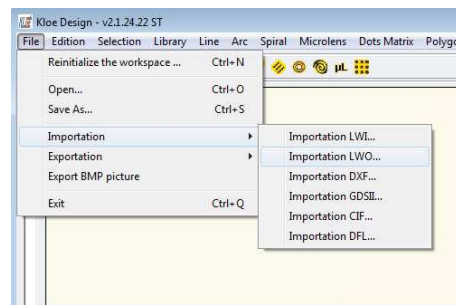

Fig 7 : Importation LWO
- The software will ask for a writing velocity and a repositioning velocity. Click on "Ok" to accept the default values. A green cross will move all over the graphic panel, drawing the pattern generated. This cross represents the way that the trajectories of the pattern will be written by the equipment (Fig 7). The red lines represent the trajectories during which the laser is on, the green lines (if present) the ones executed by the stages but with the laser off.